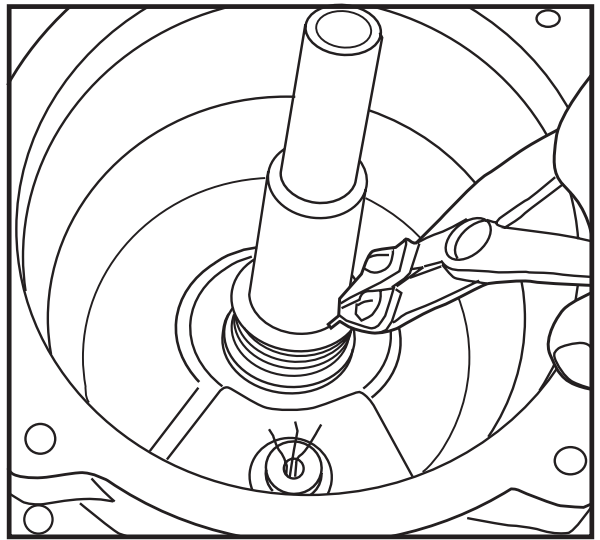

Fig. 38
8. To remove upper seal use snap ring pliers and remove snap ring that holds upper seal in place. See Figure 38.